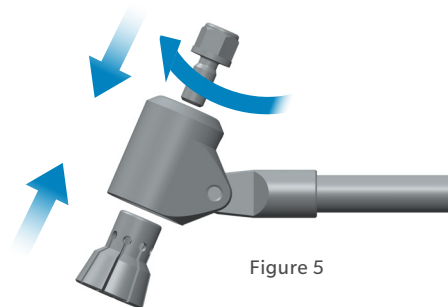

Figure 5
4. Assemble the articulation (3) with the screw (6) and an appropriate size clamping chuck (5) by screwing it together using a handle with quick coupling (part number: 75.00.25) as shown on Figure 5.